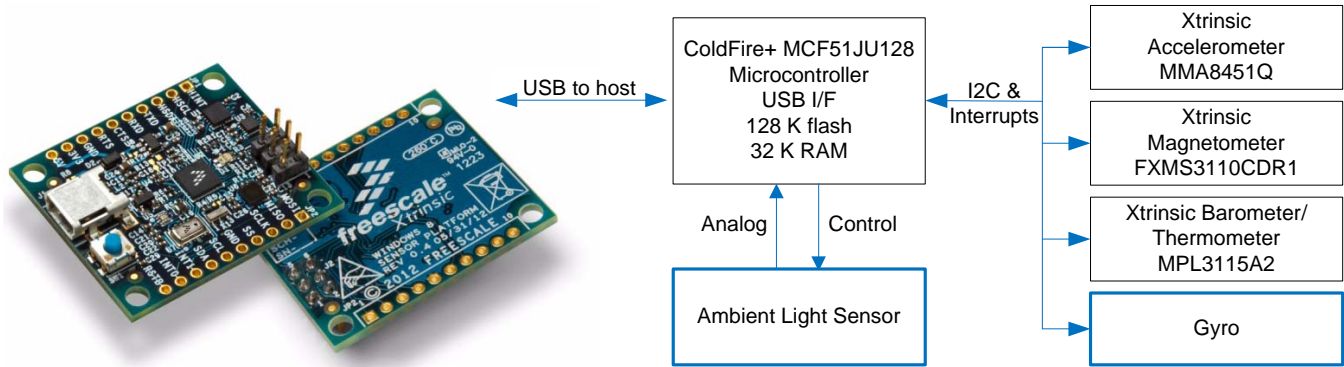

Figure 1. Sensor Platform for Windows 8 board and block diagram
The Xtrinsic Sensor Platform for Windows 8 printed circuit board and block diagram is shown in Figure 1.
- Freescale Xtrinsic Sensor Platform for Windows 8, PCB (supplied, see Figure 1)